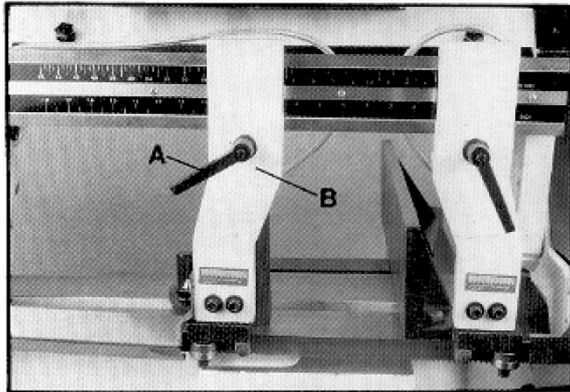

Figure 8
- Loosen lock knob (A, Figure 8) and slide left blade guide arm (B, Figure 8) to the right as far as possible.